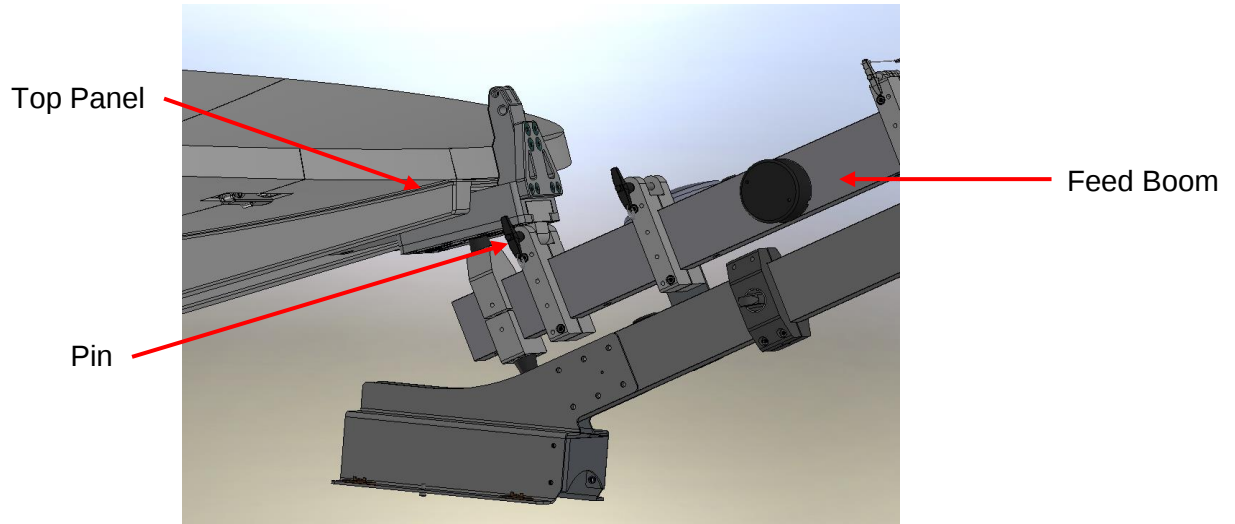

Figure 28. Attachment of Feed Boom to Top Panel
3. Remove the rear most pin from the feed boom and attach to the reflector as shown in Figure 28.